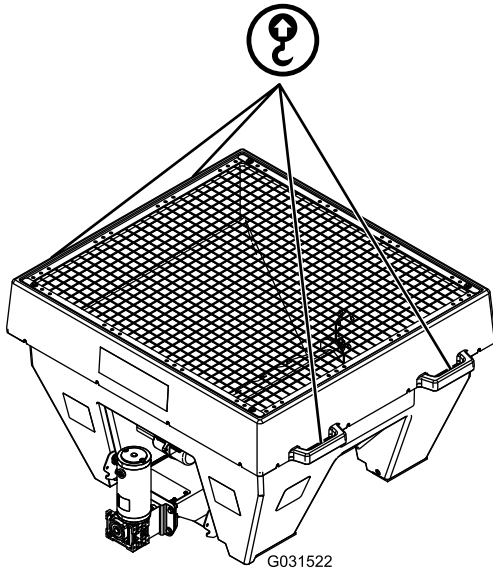

Figure 4
2. Using the lift handles (Figure 4), lift the spreader onto the utility vehicle bed and set it on the centerline.